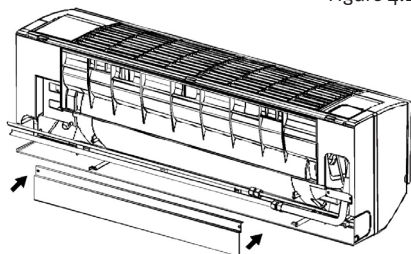

Figure 4.3
- 1 Put down two screws between the pipe holder and the unit. Then, get down the pipe holder (Figure 4.3).